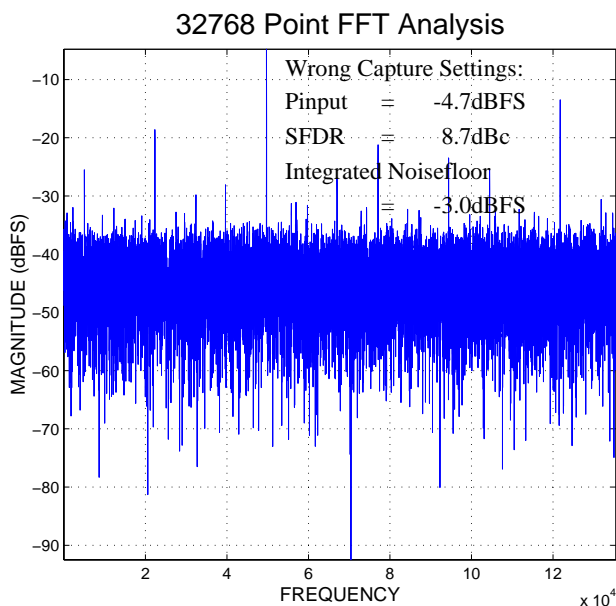

Figure 22 IF Input = 150MHz at 0dBm, Bad Alignment
10. Why does the FFT plot look like Figure 22?